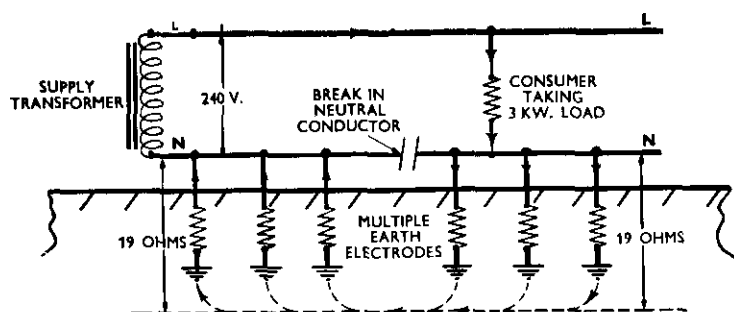

Fig. 26.
*The Danger of a Break in Neutral.* Most of the other requirements are framed to guard against the danger of a broken or discontinuous neutral conductor, a condition which is liable to cause danger to all consumers connected to the distribution system. Fig. 26 shows in diagrammatic form what happens with a broken neutral distributor. As the current from the 3 kW load cannot return along the neutral conductor it will flow back to the neutral point by way of the various earth electrodes and earth. This will have the effect of making the neutral conductor live to earth on either side of the break, the actual voltage distribution depending on the relative values of the load and the earth electrode resistances of the two sections of the neutral distributor.